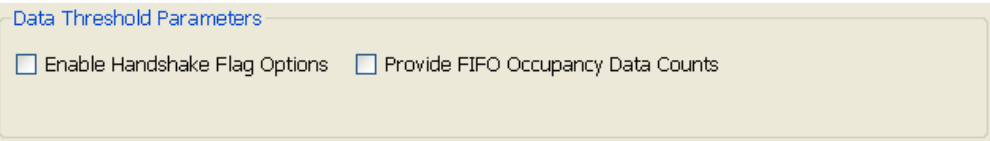

Figure 8-18: AXI4-Stream Interface FIFO: Page 4 - FIFO Occupancy Option
- Data Count/Write Data Count/Read Data Count options of Native Interface FIFOs can be set through the Provide FIFO Occupancy Data Counts option on Page 4 of the AXI4-Stream FIFO GUI, as shown in Figure 8-18.